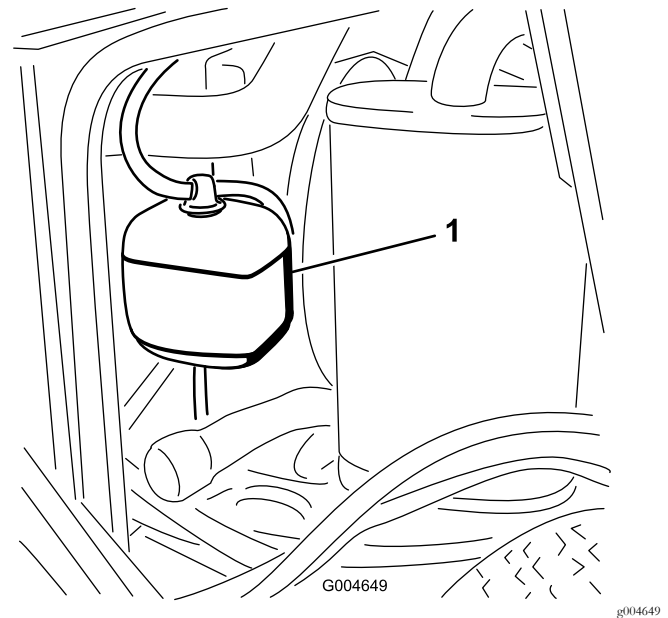

Figure 47
1. Check the level of the coolant in the expansion tank (Figure 47).